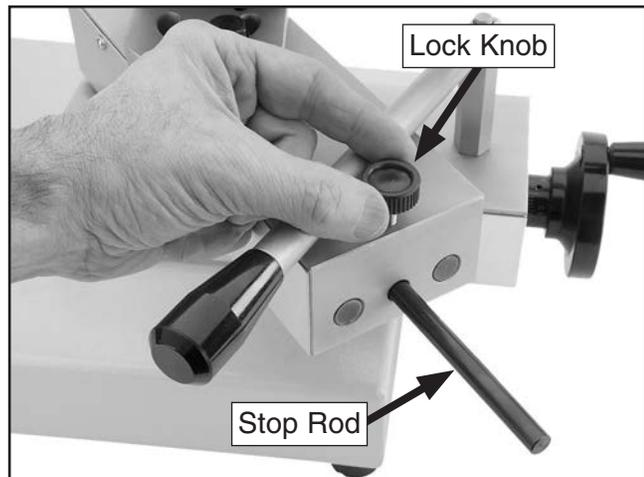

Figure 29. Loosening the knob on the front stop rod.
12. Loosen the lock knob shown in **Figure 29** and pull the stop rod all the way out from the pivot base.